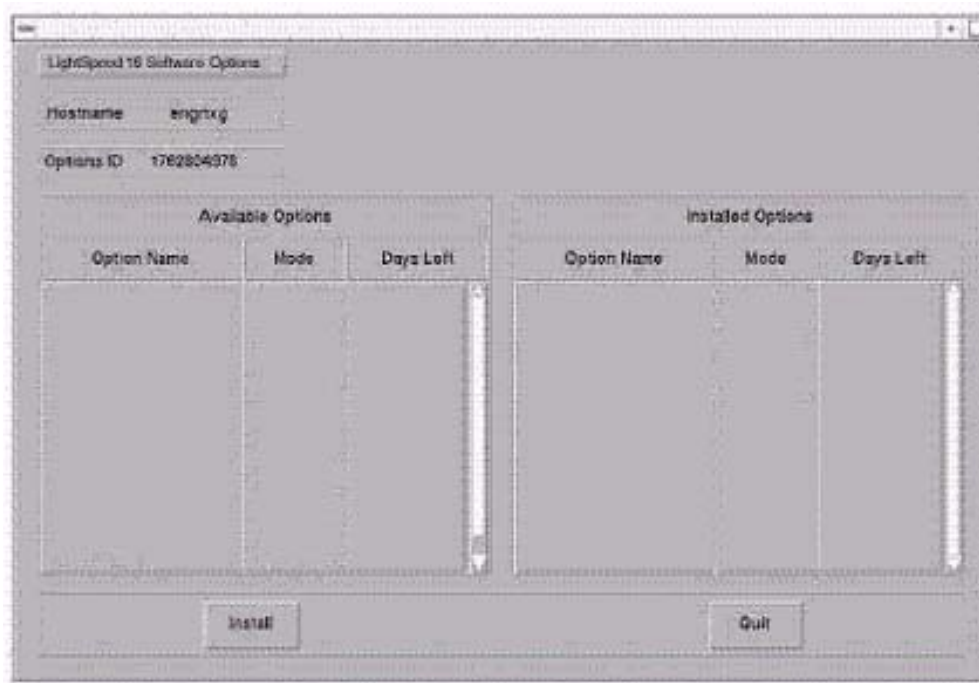

Figure 1-19 Install Options screen
- 5.) Select INSTALL OPTIONS. A blank Software Options screen (Figure 1-19) appears.